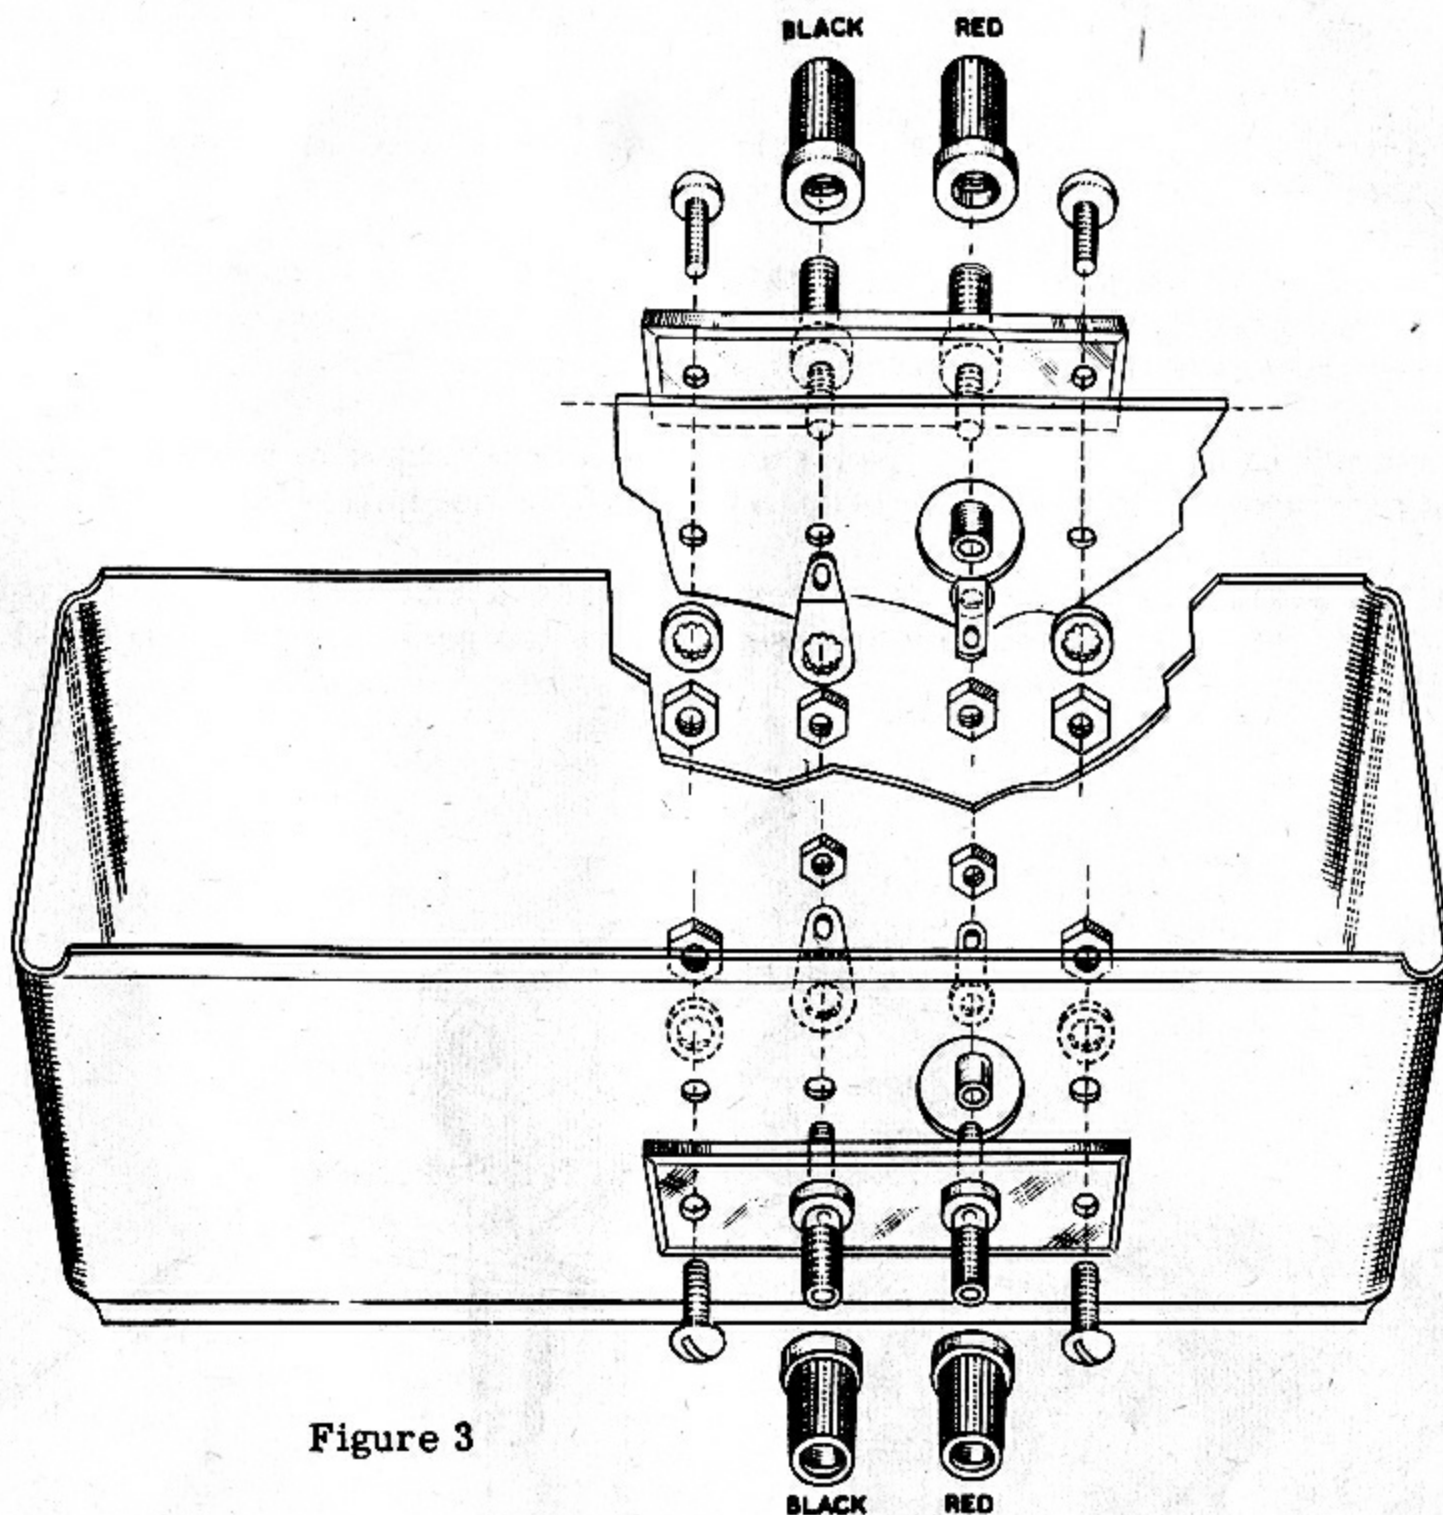

Figure 3
- ( ) Mount the two plastic insulator strips on the case sides using 6-32 screws and nuts with lockwashers on the inside of the case as shown in Figure 3. Align the strips so all holes are centered before tightening.
- ( ) On the threaded portion of the binding post bases protruding through the inside of the case, mount standard solder lugs and secure with 6-32 nuts. Do not use lockwashers whenever solder lugs are used. Position as shown in Figure 3. Do not use the small solder lugs here.
- ( ) Slide a 3/16" spacer over the screw protruding inside the case, then a small solder lug and nut. Mount the lug to face toward the nearest case edge, then bend at right angles to the case side. See Figure 3.